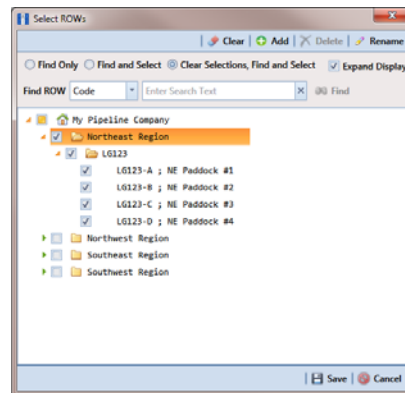

Figure 2-47. Select ROWs
- 1 Click **File > Select ROWs** to open the *Select ROWs* window. Select one or more pipeline segments and then click  **Save** to close the window (Figure 2-47).
- 1 Click **File > Select ROWs** to open the *Select ROWs* window. Select one or more pipeline segments and then click  **Save** to close the window (Figure 2-47, page 81).